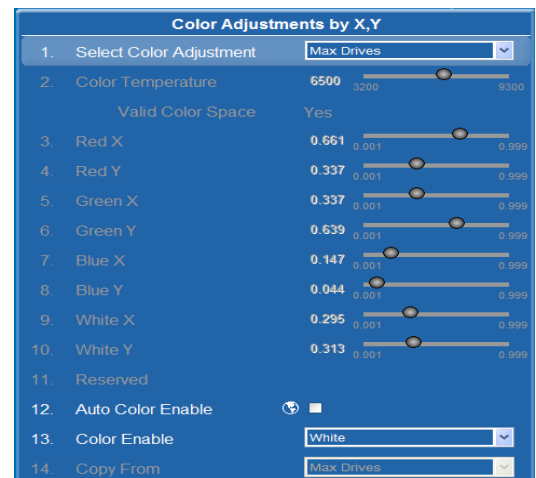

Figure 7-2 Select Color Adjustment
Selecting **Auto Color Enable** (Figure 7-2, item 12) will automatically select **Color Enable** based on the control being adjusted.